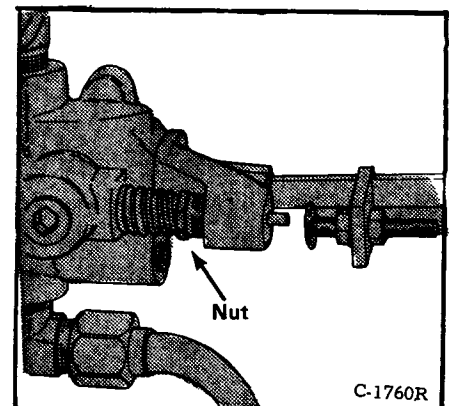

Fig. 11 Holding Pressure Adjustment
- (7) Adjust the holding pressure to 800 to 850 PSI (5515 to 6860 kPa) (Fig. 11).